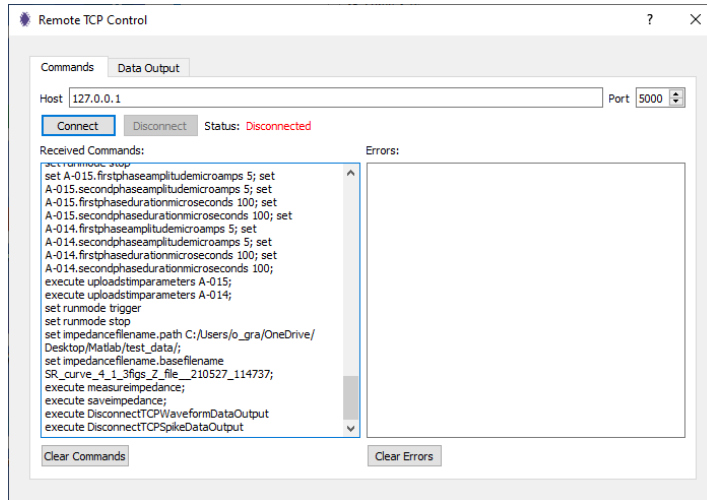
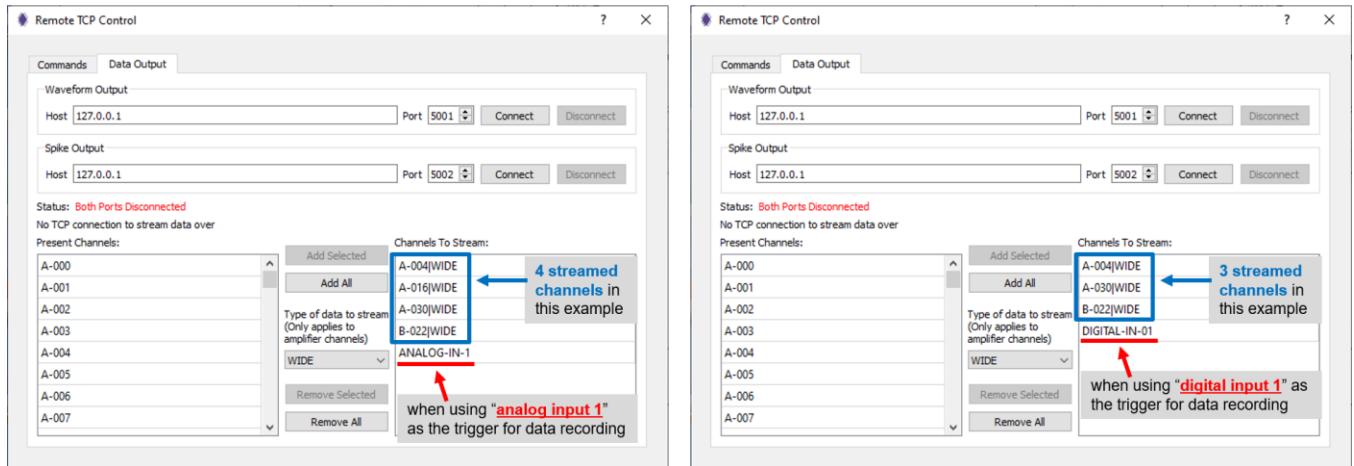

Fig. 115: The Command tab of the Remote TCP Control window post disconnection.
Fig. 116: The Data Output tab of the Remote TCP Control window after Matlab script execution.
- 13) To be ready for the next Matlab script execution, click the “Disconnect” button in the Commands tab of the Remote TCP Control window of the IntanRHX software. The status should now change to “Disconnected” in red font (**Fig. 115**).
Note: The Waveform Output and Spike Output ports in the Data Output tabs are automatically disconnected by the Matlab script (**Fig. 116**), so no need to click “Disconnect” for those.
As shown in **Fig. 115** above, the “Remote TCP Control” window in IntanRHX should have been updated displaying the commands that were sent to and executed by IntanRHX (“Commands” tab). In the “Data Output” tab, the data streams that were sent from IntanRHX to Matlab are displayed as shown in **Fig. 116** above. Two examples are shown in this figure. In the example on the left side of the figure, four channels were streamed for real-time monitoring, and the trigger was set to the analog input 1 signal. In the example on the right side of the figure, three channels were streamed, and the trigger was set to digital input 1 signal.